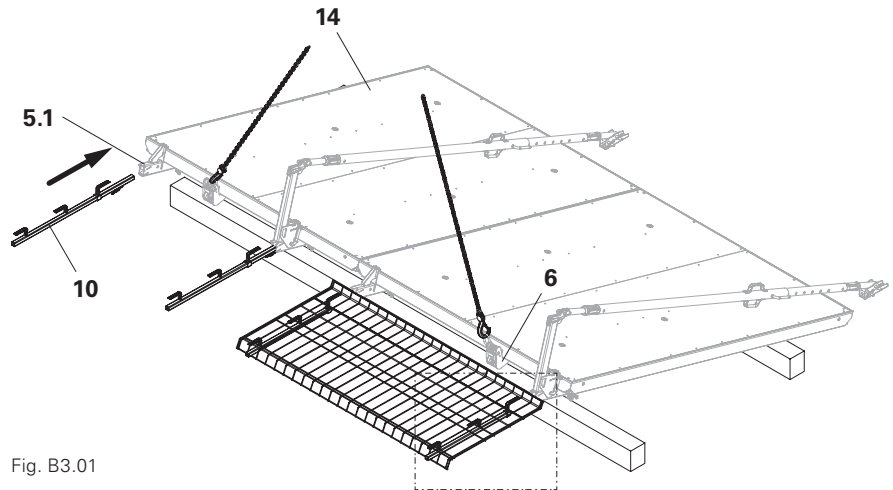

Fig. B3.01
- (Fig. B3.01)
1. Hook the Side Mesh Barrier PMB S 260 (**11**) into the two upper L-holders (**10.2**). (Fig. B3.01)